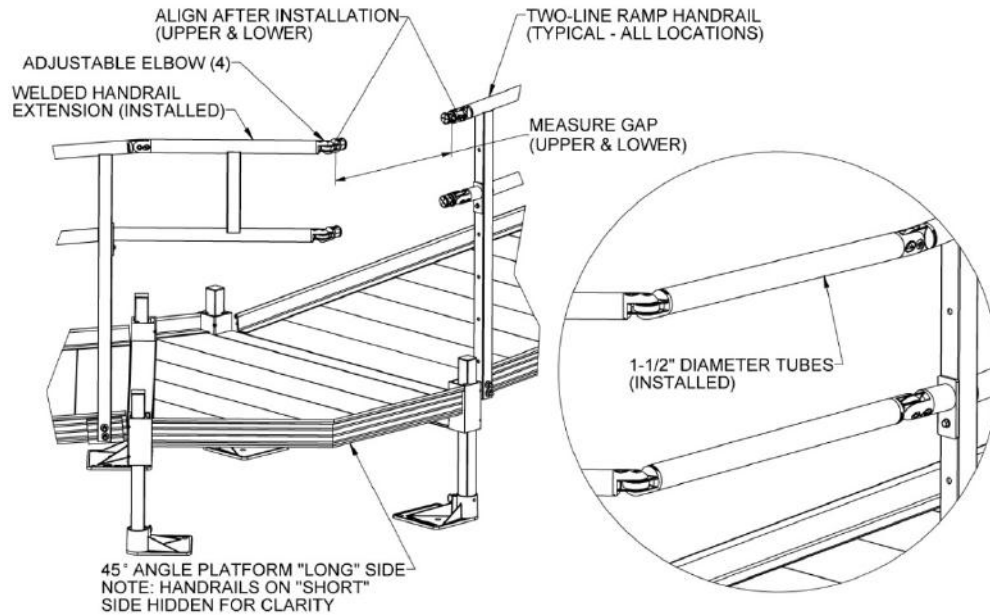

FIG. 4.20
- 4.9.12. Insert adjustable elbows into the open ramp handrail, the Bolt-On Stub Rail and the open ends of the welded handrail extension (FIG. 4.20).
- 4.9.14. FIG. 4.20 shows the completed connection.